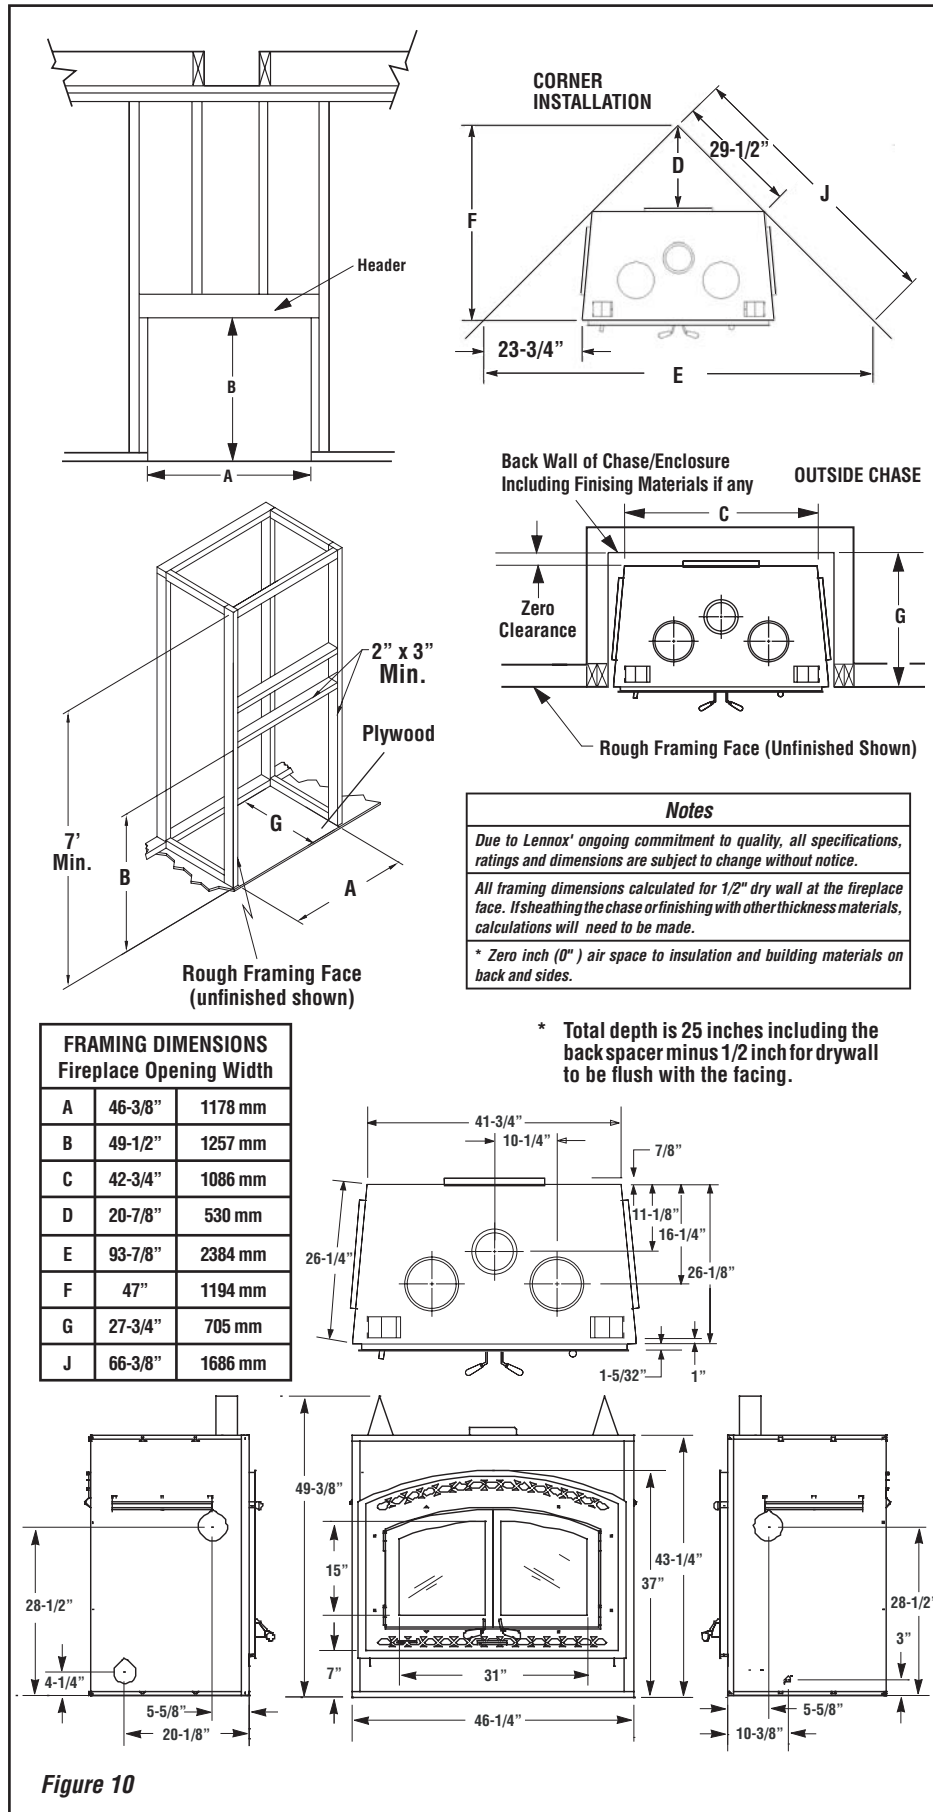

Figure 10
The construction of the framing, facing, and mantel must be in accordance with the standards and the following illustrations (**Figures 10 & 11**):
- Frame the fireplace with vertical studs at the sides of the fireplace running from floor to ceiling (see **Figure 10**). If combustible facing is to be used, position the studs back, from the front edge of the fireplace (a space that is the thickness of the facing material, so that the facing can be installed flush with the fireplace facing). Frame headers between the vertical studs only as follows: